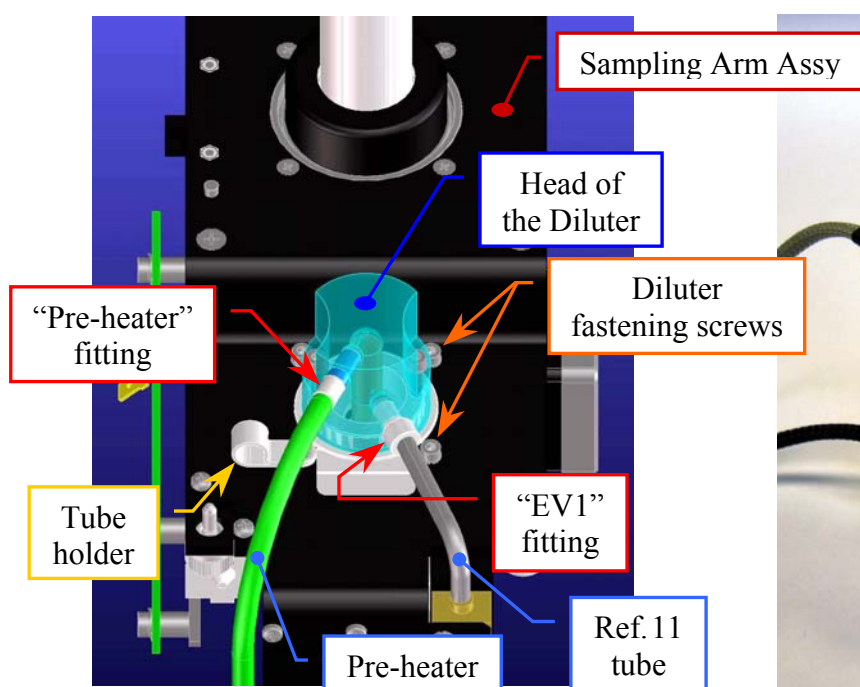

Fig. 32 – Diluter fastening screws
2. Unscrew the screw of the tube holder (**Fig. 32**) and remove the Pre-heater tube from it.
3. Unscrew the “Pre-heater” fitting and the “EV1” fitting from the head of the Diluter (**Fig. 32**), making attention to the spillage of liquid from the tubes.
5. Unscrew the other three fastening screws of the Diluter (**Fig. 32**) and take out it from its housing on the Sampling Arm Assy.
6. Unscrew the tube holder screw (**Fig. 32**) and remove the Pre-Heater tube from it.
7. Unscrew the “Pre-Heater” fitting from the head of the Diluter (**Fig. 32**) – making attention to the spillage of liquid from the tube – and move inside the instrument the relative part of the Pre-Heater tube.